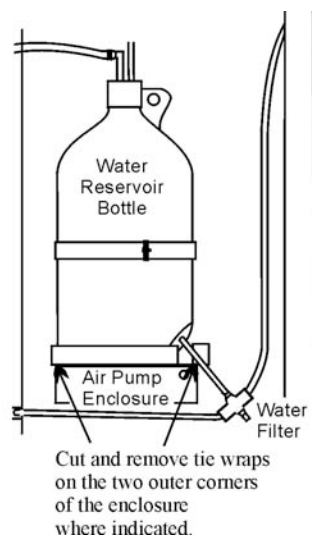

Figure 5-3
5. Cut and remove the two outermost tie wraps which secure the enclosure to the base of the platform. The tie wraps are fed through rubber grommets. (Figure 5-3)
Note: If there is a vibration with the air pump, creating an undesirable noise or shelf vibration, remove all four of the tie wraps on the outer corners of the enclosure (Refer to Figure 5-3).
4. Locate the inline water filter. (Refer to Figures 5-3 and 5-4)